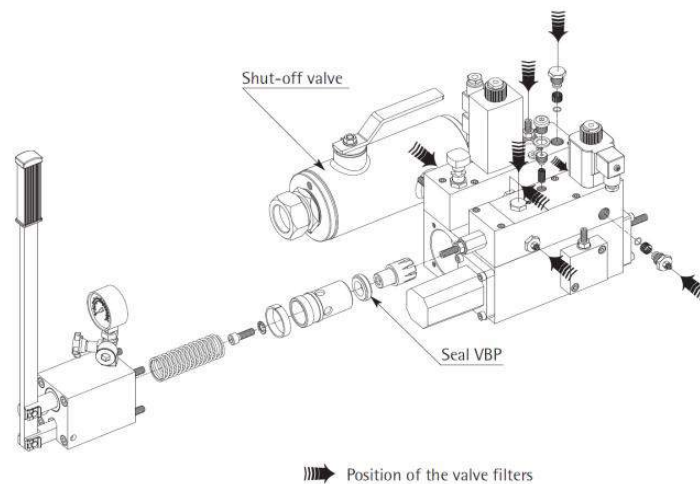

Figure 44 – Replacement of seal VBP and cleaning of the filters
- Replace the VBP seal as shown in Figure 44:
- During the general overhaul or in case working anomalies occur, clean all the filters connected to the electro-valves and shown in Figure 44.